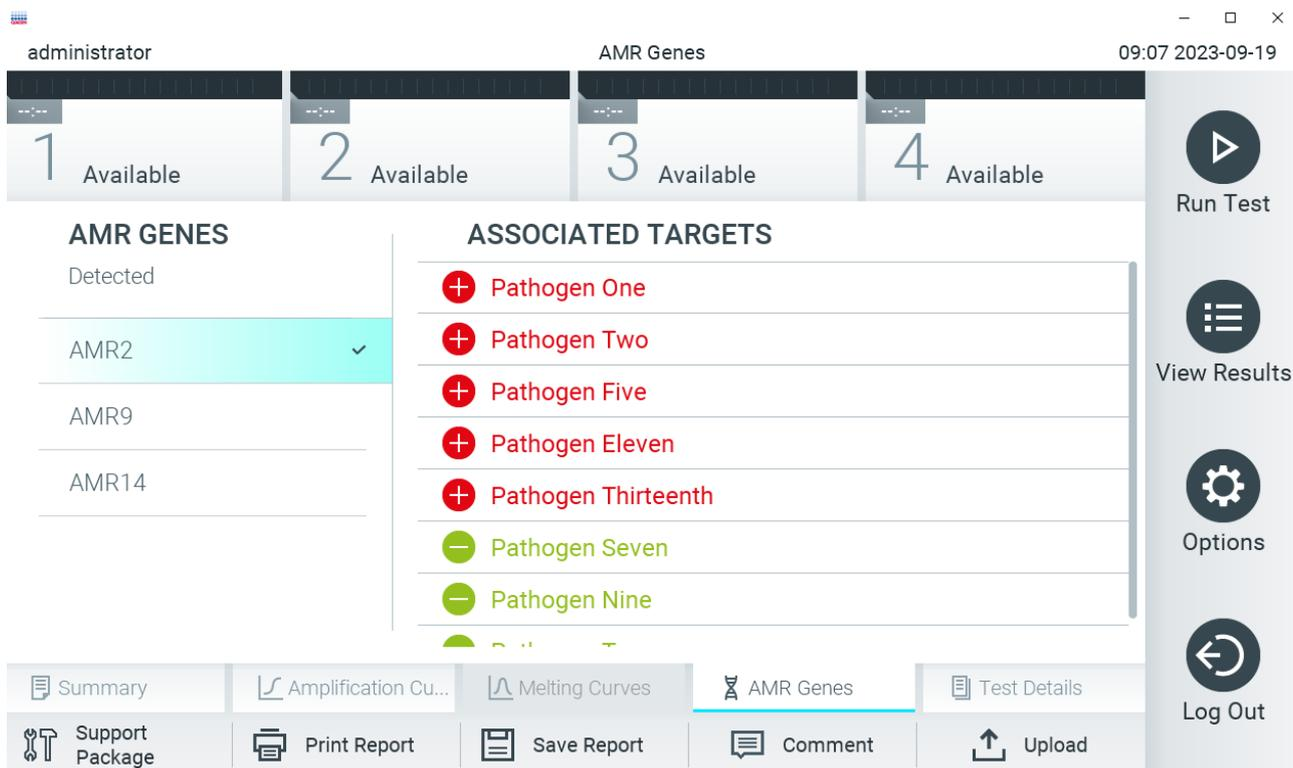

Figure 36. AMR Genes screen.
On the left side, there is a list of all detected AMR genes. When selecting one of the detected AMR genes, a list of all associated pathogens is shown in the center. Pathogens detected and identified in the sample are preceded by a  sign and are colored red. Pathogens that were tested but not detected are preceded by a  sign and are colored green (Figure 36).
**Note:** The data shown in Figure 36 is dummy data and not showing real pathogens.